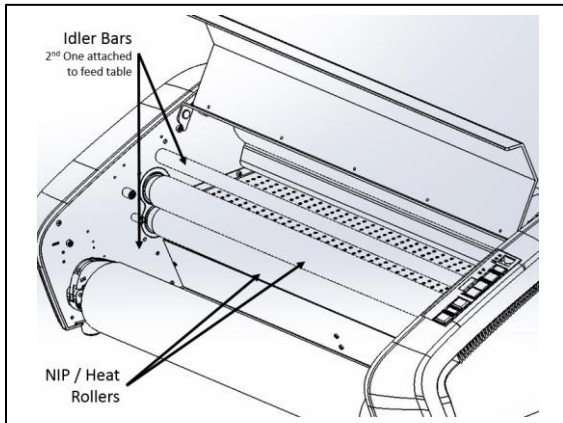

Figure 6
- G. **HEATED NIP ROLLERS:** (figure 6) Heats the film to activate the adhesive and provides pressure to ensure film adheres to the media.
- H. **IDLER BARS:** (figure 6) The Idler Bars, located near each supply roll, are used to direct the film to the NIP ROLLERS. The lower Idler Bar is attached to the Feed Table to facilitate easy film loading.